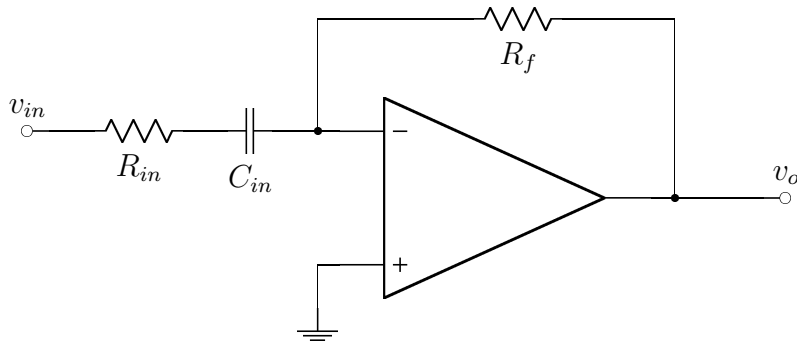

Figure 29: Practical differentiator circuit including input resistor R_{in} to introduce high frequency cutoff.
Differentiation corresponds, in the frequency domain, to multiplication by $j\omega$. Now we have increasing gain as the frequency increases. As you have seen before, the increasing gain will be cut off by the op-amp gain at some point. It is best to have the cut-off determined by external elements instead. High gain at high frequency may also cause slew rate problems for this circuit. By introducing the input resistor R_{in} (Fig. 29), the gain at high frequencies is reduced to R_f/R_{in} .
1. *Choose R_{in} , C_{in} , and R_f .* In this case, referring to the circuit in Fig. 29, we want to set the high frequency gain to be high. Set this gain to be 100 and the minimum input impedance to be $1\text{ k}\Omega$. Set the upper frequency for differentiation to be 5 kHz (this is also the -3 dB point of the high pass filter). Again, compute and sketch the expected shape of the frequency response.
2. Build the circuit shown in Fig. 29.